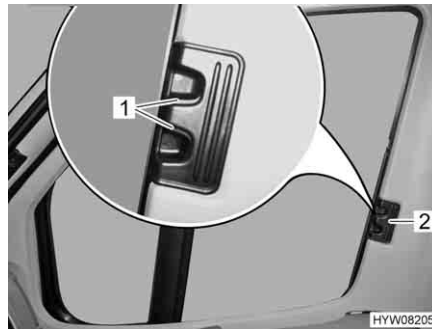

Fig. 88 Roman shade for driver's and passenger's window
- Press the release handles (Fig. 88,1) and hold them down.
- Using the handle (Fig. 88,2), draw the Roman shades for the driver's and passenger's window to the other side of the window and secure them to the magnetic strips.
- Use handle (Fig. 88,2) to push in the Roman shades for the driver's and passenger's window as far as possible.
- Let go of the release handles (Fig. 88,1) and let them engage.